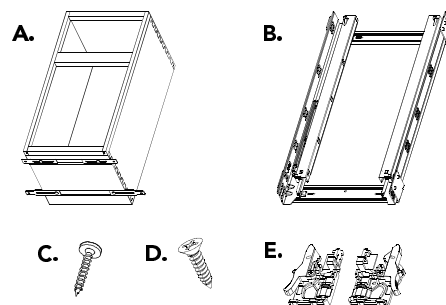

FIG. A-1
Fasten slide triggers to bottom of frame using (6) 6 x 1/2 flat head screws (See Fig. A-1 and A-2).